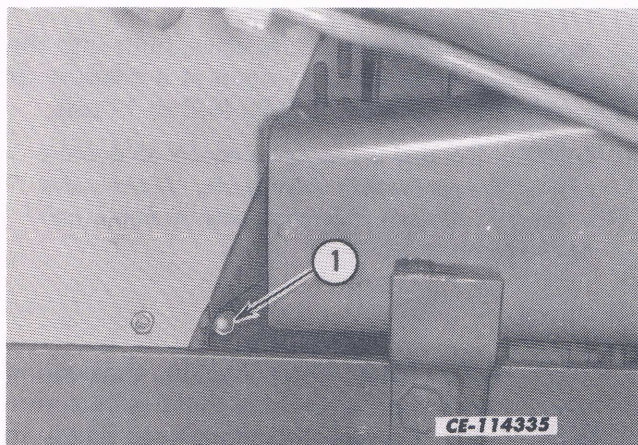

Fig. 17. Radiator Drain Valve
3. Open the radiator drain valve (1, Fig. 17).